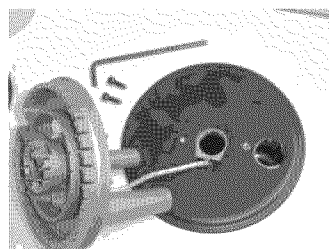

Fig. 8
- Remove Triple Ring Burner Head and place on cooktop as shown in Fig. 8. **PLEASE NOTE:** Be careful not to pull the spark wire lead with excessive force. Leave the Triple Ring Mounting Skirt & mounting gasket setting in place on the cooktop (See Fig. 8).